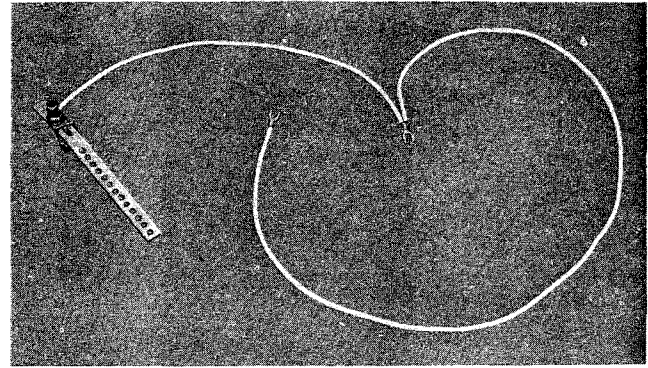

Fig. 4—P-12C414 Ground Wire Assembly
- A 14-gauge insulated ground wire (P-12C414 ground wire assembly) is provided. (Fig. 4)